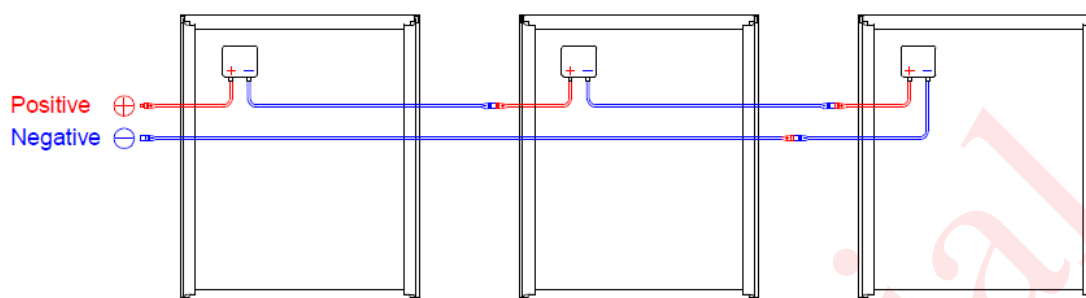

Fig.9 Series connections
- PV modules can be wired in series to increase voltage. Connect cables from the positive(+) / negative(-) terminal of one module to the negative(-) / positive(+) terminal of the next module (Fig. 9).